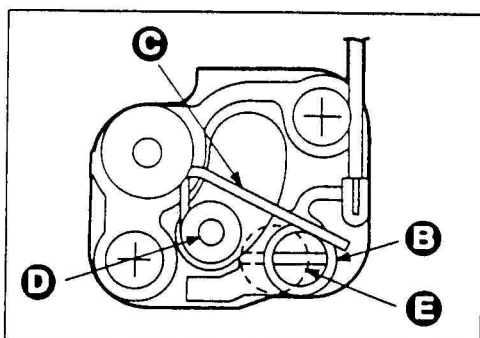

Fig. 5
- ① If the eccentric pin **B** is drawn too much in the direction **E**, it will touch the working pin **D**, resulting in malfunction. So, be careful. (See Fig. 5.)
- ② Check the source voltage is 6V.